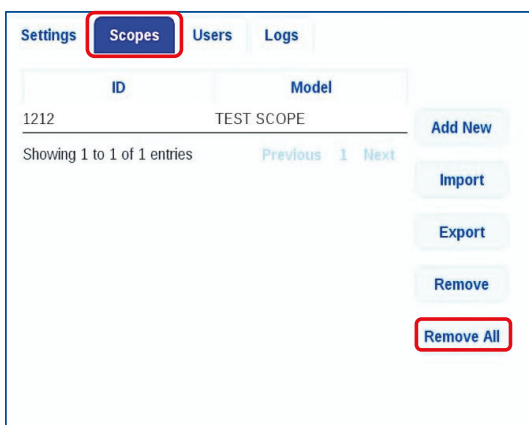

Fig. 63
3. Press the **Scopes Tab** and then press the 'Remove All' button (Fig. 63).